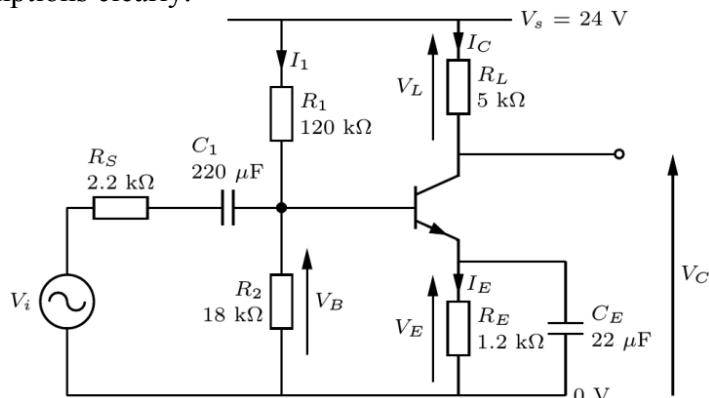

Figure 3b
- b. i) For the amplifier in figure 3b calculate the quiescent value of V_B , V_C , I_C and the small signal parameters g_m and r_{be} . Assume that the transistor V_{BE} is 0.7 V in the forward active region and $\beta = 700$. State any other assumptions clearly. (5)
- ii) Sketch a graph showing V_C , V_B , V_E , the power supply voltage and the reference (0 V) over several cycles of the sine wave input signal. Assume that the amplifier is being driven to the point of 'clipping', where the peak to peak AC voltage swing on the collector, V_C , is as large as possible without significant distortion. (4)
- iii) Calculate the quiescent V_C for this amplifier which will maximise the possible collector voltage signal swing. (2)
- c. i) Draw a small signal equivalent circuit for the amplifier in figure 3b. (4)
- ii) Evaluate the input resistance in the 'mid-band' i.e. where all of the capacitors are short circuit. Hint: R_S is the source resistance and does not form part of the input resistance. (1)